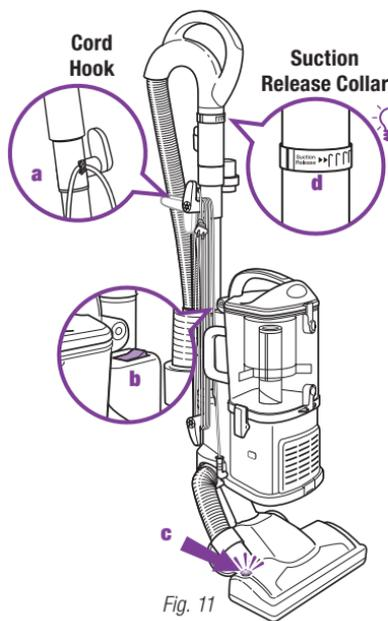

Fig. 11
IMPORTANT: The motorized brush indicator light (c) will illuminate green when motorized floor brush is on, or red if there is a blockage or jam. (Fig. 11) This feature is designed to protect your Lifetime Belt that powers your motorized floor brush. See Checking for Blockages on page 14.
- 5 Due to the huge suction power of this vacuum, it may become necessary at times to adjust the suction release (d) on the handle. (Fig. 11) If the vacuum seems difficult to push or pull or if it is lifting up area rugs, adjust the suction release by rotating the collar 90° counterclockwise to open the valve. Rotate the collar clockwise to close the valve when you need high suction and for vacuuming floors.